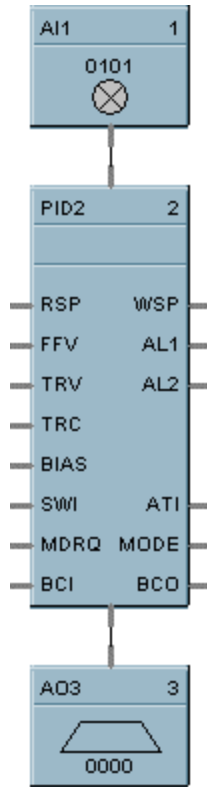

Figure 42 Typical block diagram printout
- Block Diagram (Figure 42)
2	Click on the radio button for the type of print out you want. See the examples in Figure 42, Figure 43, and Figure 44 for each type.